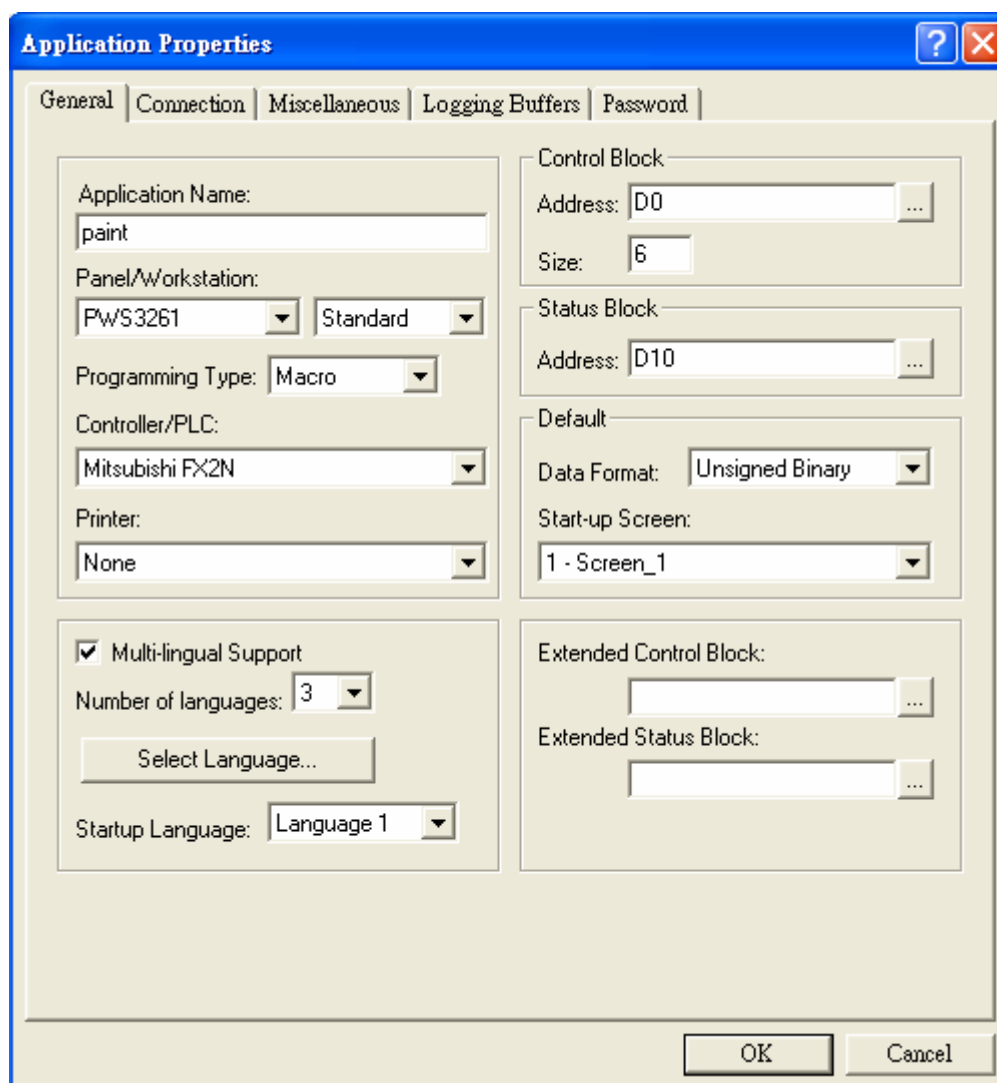

Figure 195. Setup [Control Block] and [Status Block]
2. Take coating equipment as example, the control block of PLC FX Series is D0-D5, size is 6; the status block is D10-D15. See Figure 195. For the properties which are not explained in this section, please refer to the Section [4.1. \[Control Block\]](#) and the Section [4.2. \[Status Block\]](#).